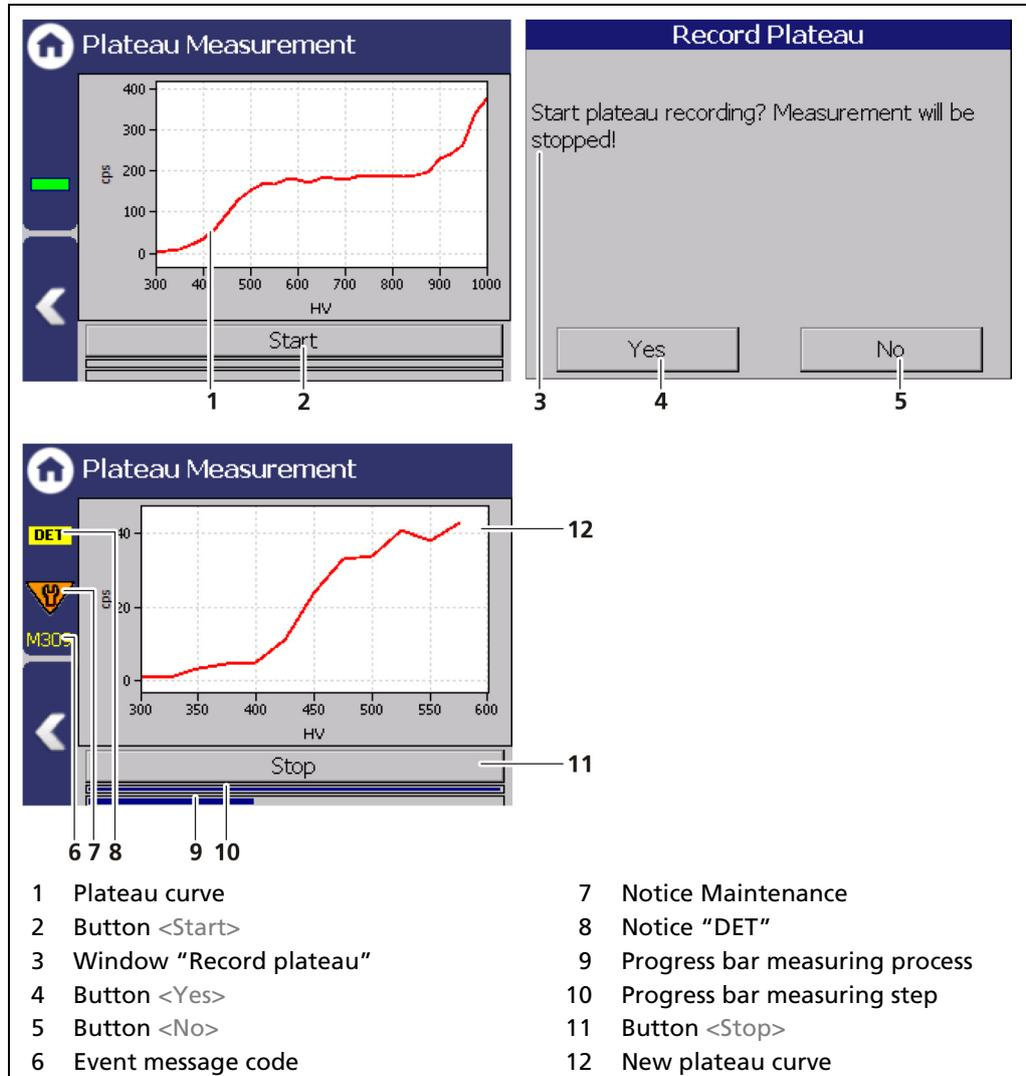

Fig. 61 Recording a plateau curve
1. Click on <Start> (Fig. 61, item 2) to perform a plateau measurement.
- ▶ The confirmation message "Record plateau" (Fig. 61, item 3) opens.
2. Confirm with <Yes> (Fig. 61, item 4).
- ▶ The EVU switches to mode "DET" (Fig. 61, item 8) and the current measurement is stopped.
- ▶ The information (Fig. 61, item 6 - 8) from the plateau measurement are displayed in the status information. The LED Run flashes on the EVU during the plateau measurement. The LED "Warning" LED lights up at the same time.